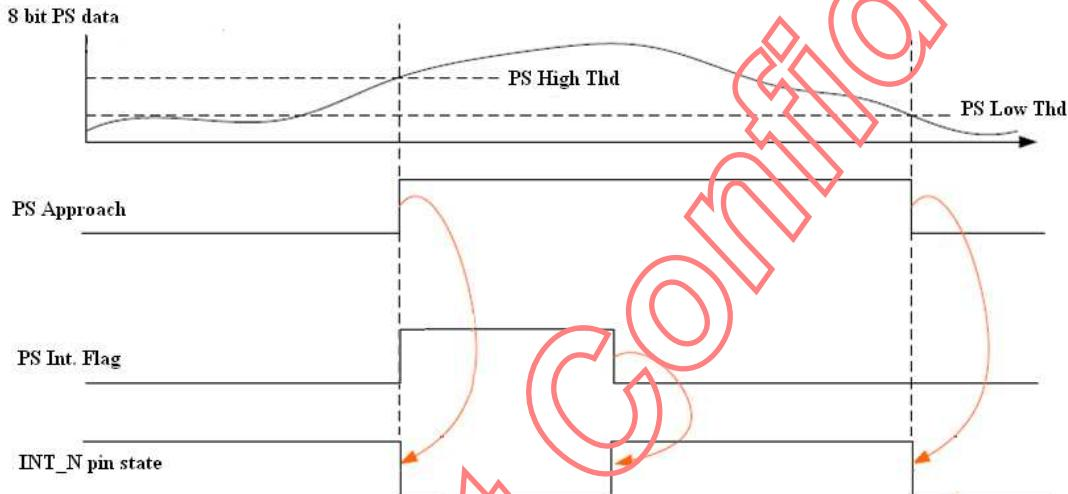

Figure 28. Proximity Sensing Functional Diagram
Refer to Figure 28 on how to set the Proximity Sensing (PS) hysteresis window and the interrupt mechanism of proximity detection.